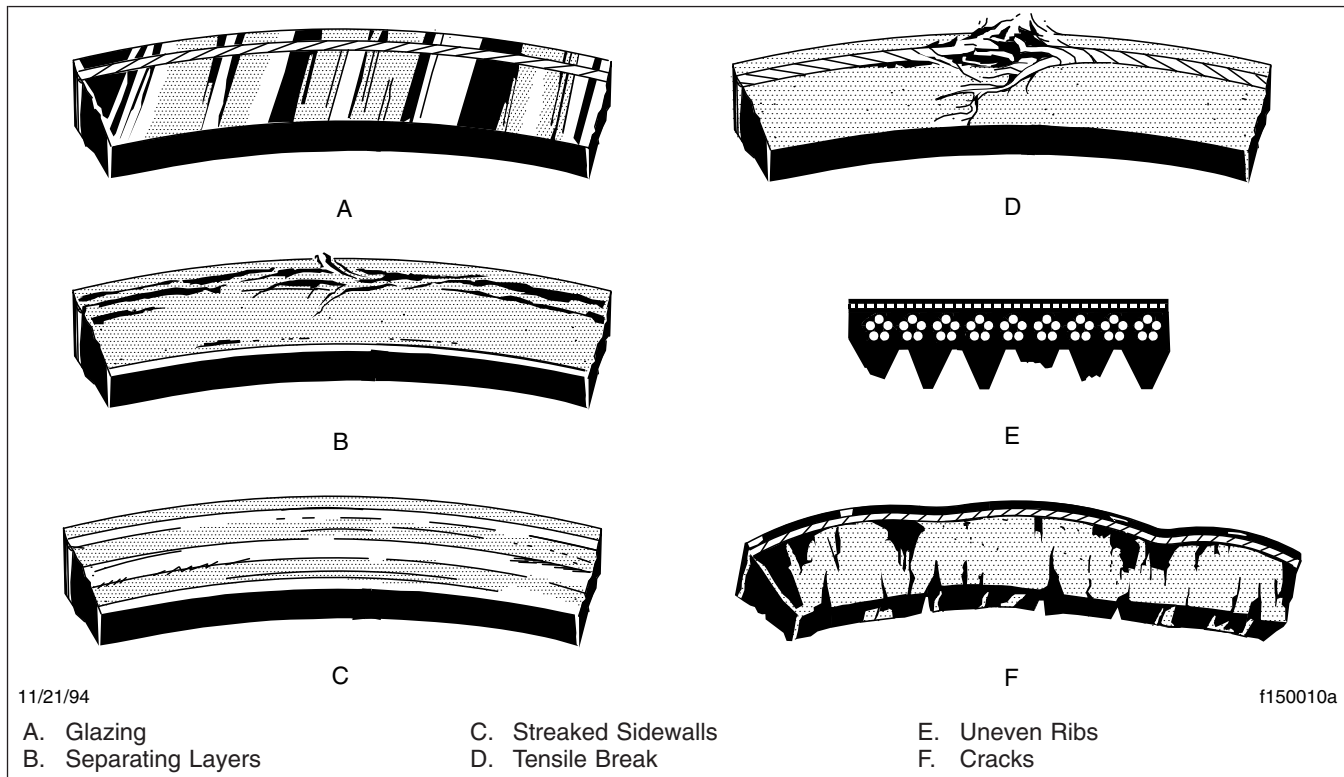

Fig. 2, Drive Belt Replacement Conditions
1. Inspect the belt for glazing. See Fig. 2, Ref. A. Glazing is represented by shiny sidewalls, and is caused by friction created when a loose belt slips in the pulleys. It can also be caused by oil or grease on the pulleys.
2. Check the belt for ply separation. See Fig. 2, Ref. B. Oil, grease, or belt dressing can cause the belt to fall apart in layers. Repair any oil or coolant leaks that are affecting the belts before replacing the drive belts. Do not use belt dressing on any belt.
3. Check the belt for a jagged or streaked sidewall. See Fig. 2, Ref. C. Jagged or streaked sidewalls are the result of foreign objects, such as sand or gravel in the pulley, or a rough pulley surface.
4. Check for tensile breaks (breaks in the cord body). See Fig. 2, Ref. D. Cuts in a belt are usu-
5. Check for uneven ribs on serpentine (poly-V) belts. See **Fig. 2**, Ref. E. Foreign objects in the pulley will erode the undercord ribs, causing the belt to lose its gripping power.
6. Check the drive belts for cracks. See **Fig. 2**, Ref. F. Small irregular cracks are usually signs of an old belt.